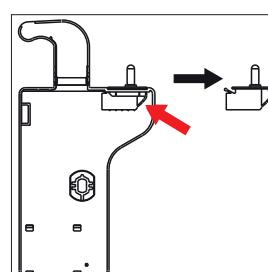

Fig. 3
- ▶ Press down the marked tab on the door contact to enable the door contact to be removed from the hinge cover (1) (Fig. 3).